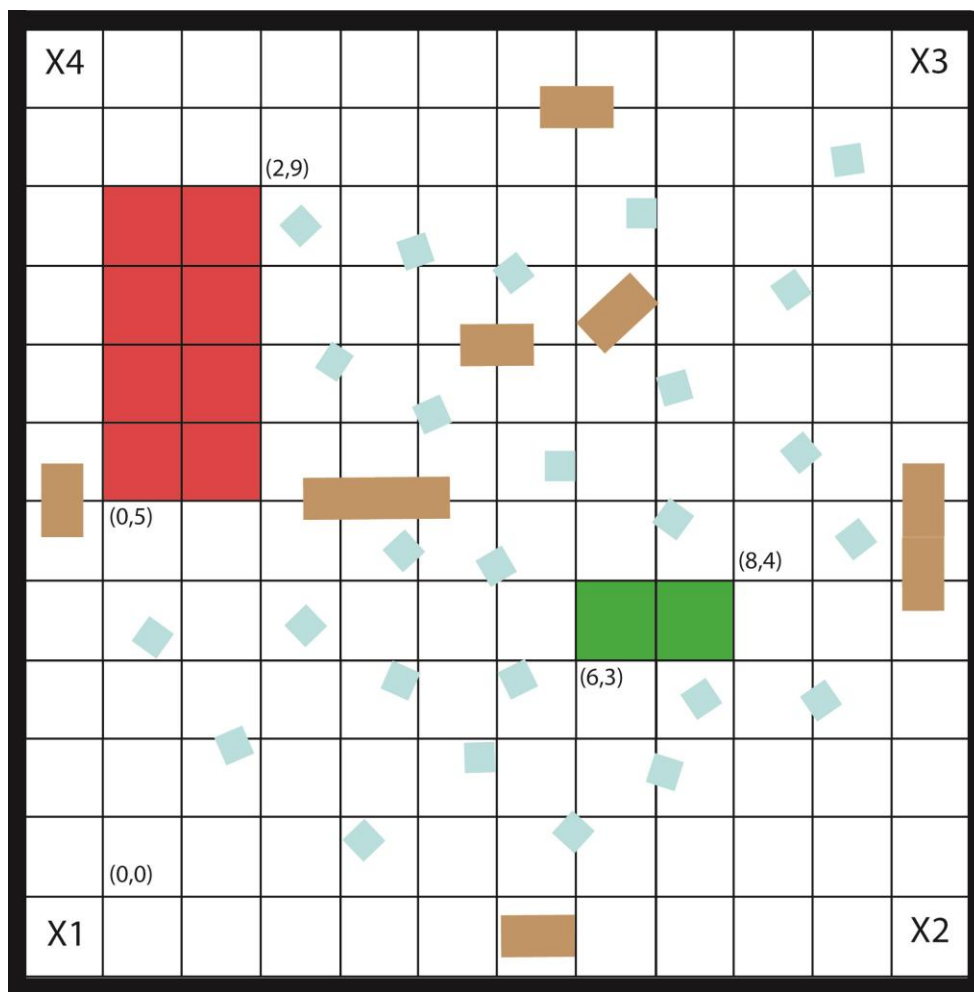

Figure 1
Construct an autonomous robot capable of finding and manipulating Styrofoam blocks, while navigating within an enclosed area populated with known obstacles placed within a 12' x 12' enclosure (Figure 1). The task of the robot is to compete one-on-one with an opponent in the construction of a tower using Styrofoam blocks.
At the start, the competition arena will be set up in a layout similar to that shown in Figure 1. Approximately 10-20 Styrofoam blocks will be randomly distributed throughout the arena except in the 4 corners labeled X1-X4, and the Red and Green zones. The floor will also be populated with approximately 5-10 wooden blocks at arbitrary positions and orientations, again except for the excluded zones. Each robot will
Assume that a robot is placed in position X1 for the field configuration shown in Figure 1 and assigned the role of Builder. It will receive the following set of parameters (1,1,15,2,0,5,2,9,6,3,8,4).
1. The dimensions and layout of the field are shown in Figure 1. To facilitate operations, the floor is comprised of nine 4’x4’ hardwood-covered metal panels that lock together. The surface of each panel is marked with a 4’x4’ grid that aligns precisely with adjacent panels. These are intended for navigational purposes, which were covered during one of the one-week labs.